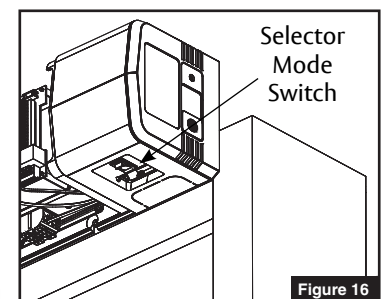

Figure 16
1. Orient union assembly so access door covering selector mode switch faces floor. (Figure 16)